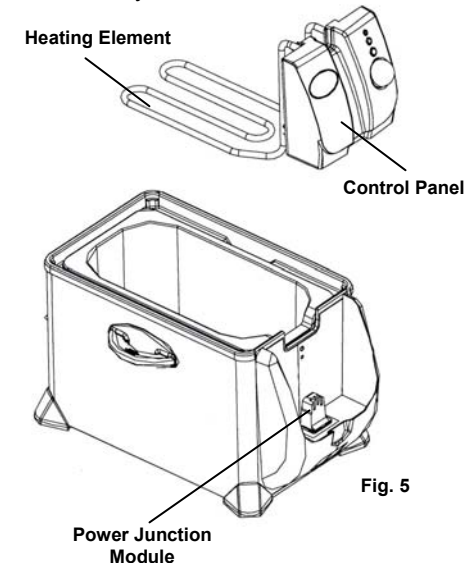

Fig. 5
- Slide the control panel down making sure that the control panel is fully seated into the power junction module. (Fig. 5)